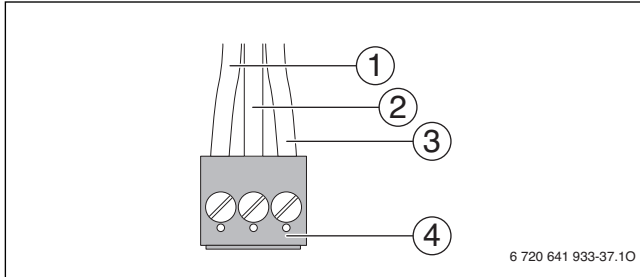

Fig. 49 Attach plug (external DHW tank loading pump or 3-way valve)
- ▶ Connect cable to **the red plug** according to Fig. 49.